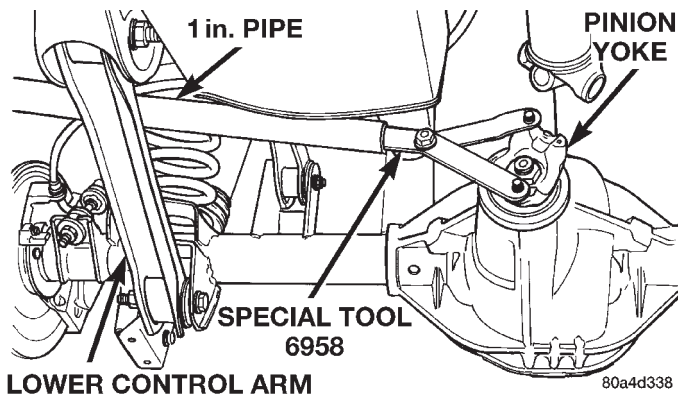

Fig. 36 Pinion Yoke Holder
(1) Remove differential assembly from axle housing.
(2) Mark pinion yoke and propeller shaft for installation alignment.
(3) Disconnect propeller shaft from pinion yoke. Using suitable wire, tie propeller shaft to underbody.
(4) Using Holder 6958 to hold yoke and a short length of 1 in. pipe, remove the pinion yoke nut and washer (Fig. 36).